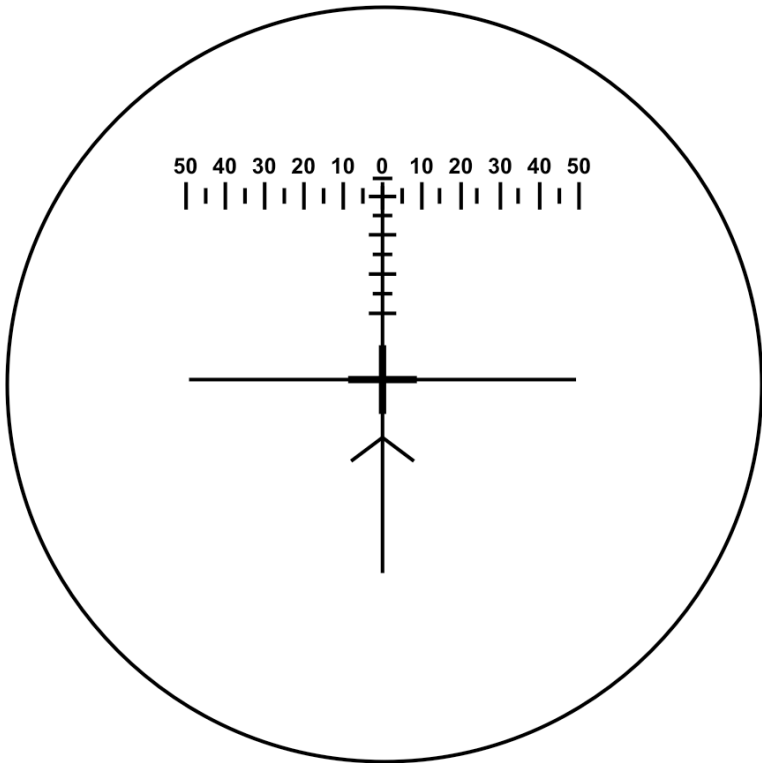

Figure 2-16: Eryx Reticule Pattern.
15. **Aiming and Reticule Pattern.** *Explain.* The optical sight (see Figure 2-16) has a field of view of 230 mils, 3 power magnification, and an eye shield to provide proper eye relief and comfort to the gunner. It also has a reticule which includes the following :